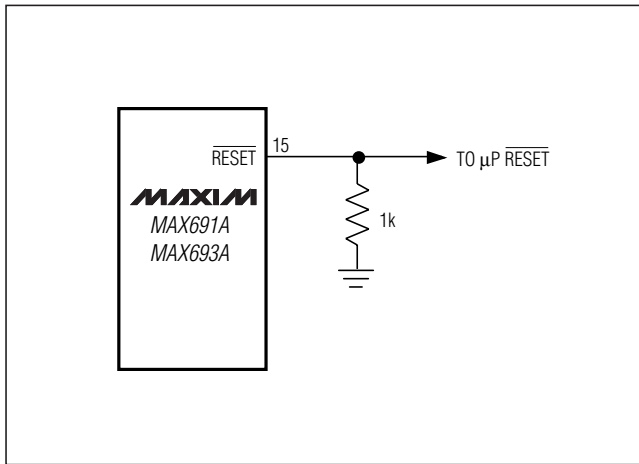

Figure 1. Adding an external pull-down resistor ensures  $\overline{\text{RESET}}$  is valid with  $V_{CC}$  down to GND.
guaranteed to be valid down to VCC = 1V, and an external 10kΩ pull-down resistor on  $\overline{\text{RESET}}$  insures that it will be valid with VCC down to GND (Figure 1). As VCC goes below 1V, the gate drive to the  $\overline{\text{RESET}}$  output switch reduces accordingly, increasing the RDS(ON) and the saturation voltage. The 10kΩ pull-down resistor insures the parallel combination of switch plus resistor is around 10kΩ and the output saturation voltage is below 0.4V while sinking 40μA. When using a 10kΩ external pull-down resistor, the high state for  $\overline{\text{RESET}}$  output with VCC = 4.75V will be 4.5V typical. For battery voltages ≥ 2V connected to VBATT,  $\overline{\text{RESET}}$  and RESET remain valid for VCC from 0V to 5.5V.